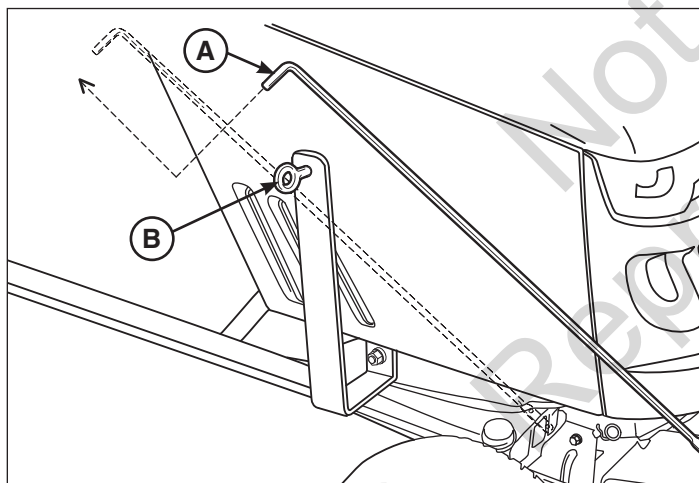

Figure 16
3. Insert the top blade rod (A, Figure 16) through the eye bolt hole (B).